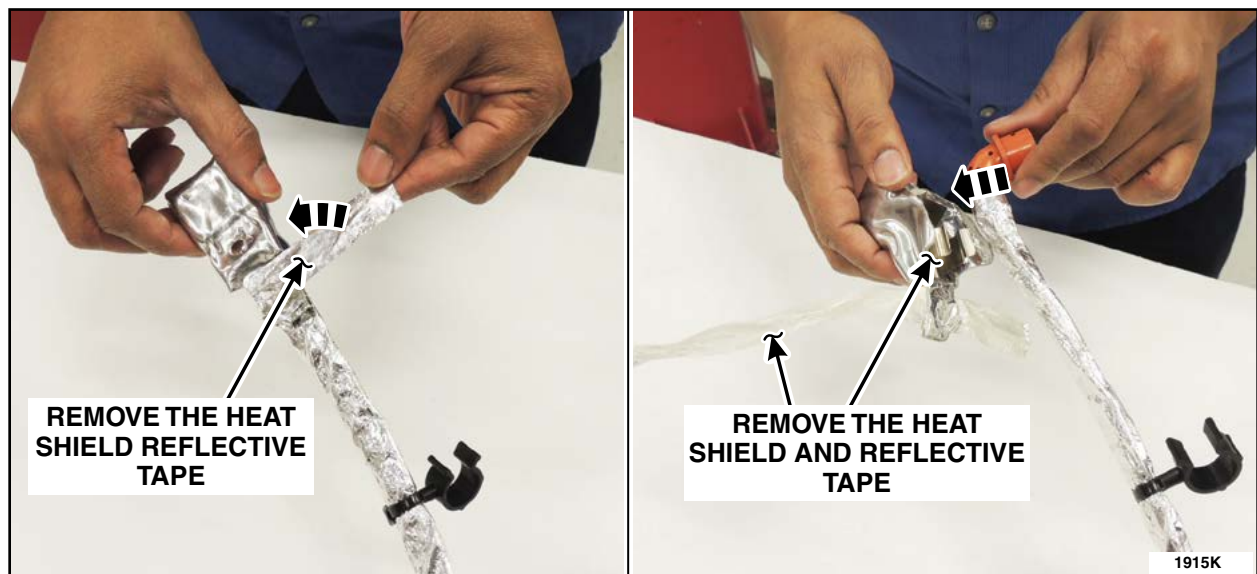

FIGURE 15
- If equipped, remove the heat shield by removing the reflective heat tape holding the heat shield to the block heater cable. See Figure 15.
16. Carefully remove the reflective heat tape holding the heat shield to the block heater cable. Then, remove the heat shield and reflective heat tape and set aside to be reattached back to the block heater cable later in this procedure. See Figure 15.
23. Using the original reflective heat tape, install and retape the heat shield around the block heater element connector end. See Figure 15.